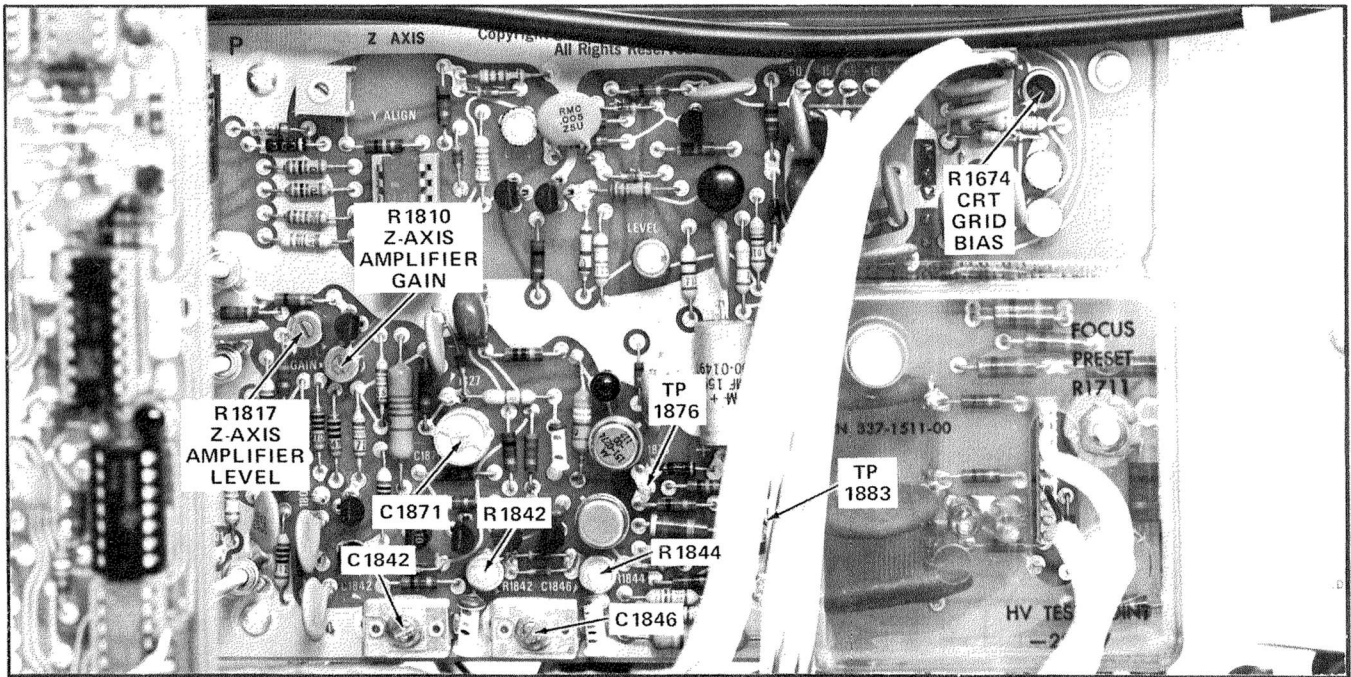

Fig. 3-2. Location of z-axis DC levels and transient response adjustments and test points.
c. Connect the precision DC voltmeter between TP -2960 (see Fig. 3-2) and chassis ground.
The z-axis adjustments and test points are located on the Z-Axis board (right side of instrument). The location of the adjustments and test points for steps 4 and 5 is shown in Fig. 3-2; the remainder are shown in Fig. 3-3.
b. Connect the test oscilloscope 10X probe tip to TP 1883; connect the probe ground to the ground TP in the middle of the Z Axis board (Fig. 3-2).
<http://manoman.sqhill.com> Fig. 3-2. Location of z-axis DC levels and transient response adjustments and test points.